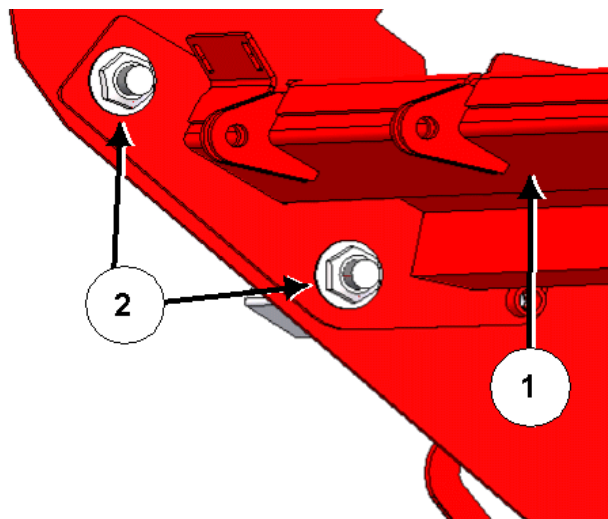

Figure 20: Fasten lower sheet to front tub wall
- b. If there is a feed chopper installed, fasten the opposite end of the lower sheet (1) to the front tub wall using the previously removed hardware (2); see Figure 20.